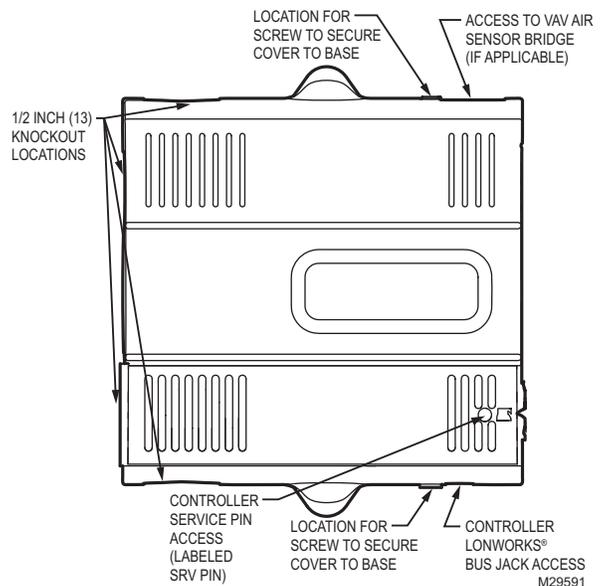

Fig. 1. Wiring box features
4. Wire controller using the appropriate 1/2 in. knockouts to access the wiring box and the wire routing posts to manage all wires (see Fig. 1).
6. Use provided security screws to secure the wiring box cover to the base (see Fig. 1).